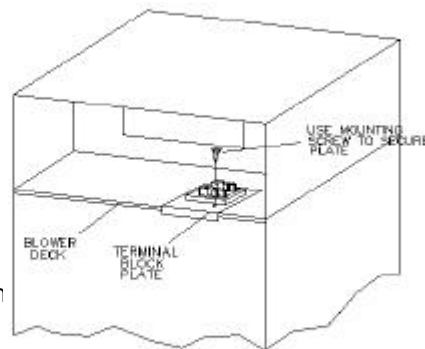

FIG. 3 - TERMINAL BLOCK INSTALLATION
4. Carefully slide heater assembly into blower section through the air handler access opening. Secure the heater by slipping the heater plate behind the offset in the back plate of the cabinet. For **breaker models** use the (4) screws provided to secure the back plate and front of the electric heat assembly. For **terminal block models** use the (2) screws provided and then secure the terminal block plate to the blower deck with (1) screw (see Fig. 3). **Make sure that no elements are disturbed in their ceramic holders.**